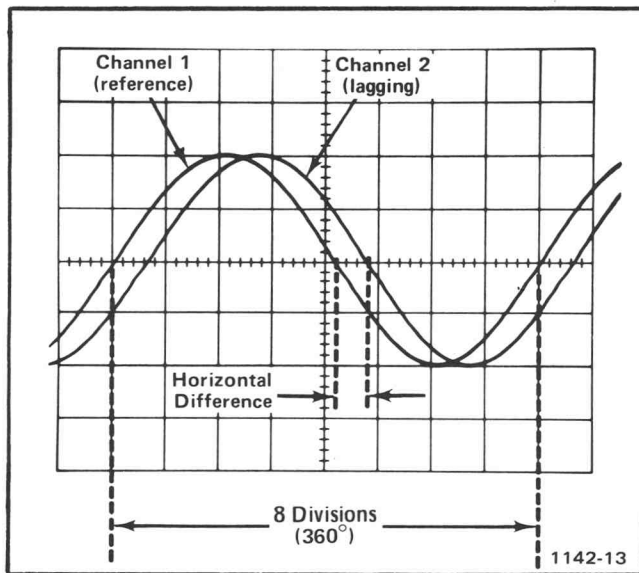

Fig. 6. Measuring phase difference.
(see Fig. 6). Each division of the graticule represents  $45^\circ$  of the cycle ( $360^\circ \div 8 \text{ divisions} = 45^\circ/\text{division}$ ). The sweep rate can be stated in terms of degrees as  $45^\circ/\text{division}$ .
**Example.** Assume a horizontal difference of 0.6 division with a sweep rate of  $45^\circ/\text{division}$  as shown in Fig. 6.